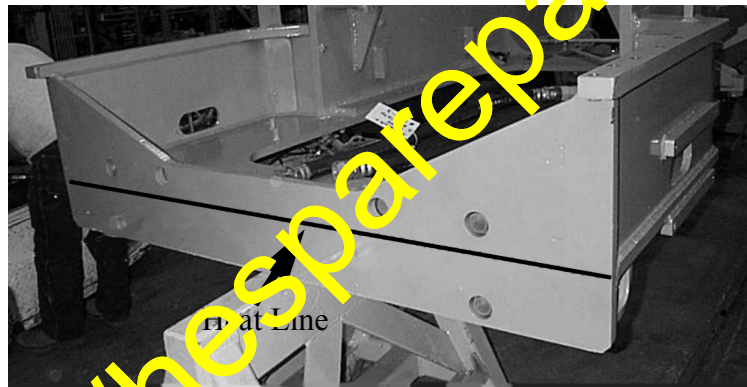

Figure 3 Mounting Plate
3. As shown in Figure 3, apply pressure from the back side of plate, then heat plate along heat line until plate is straight within 1.5mm (0.059 inch) from top to bottom.